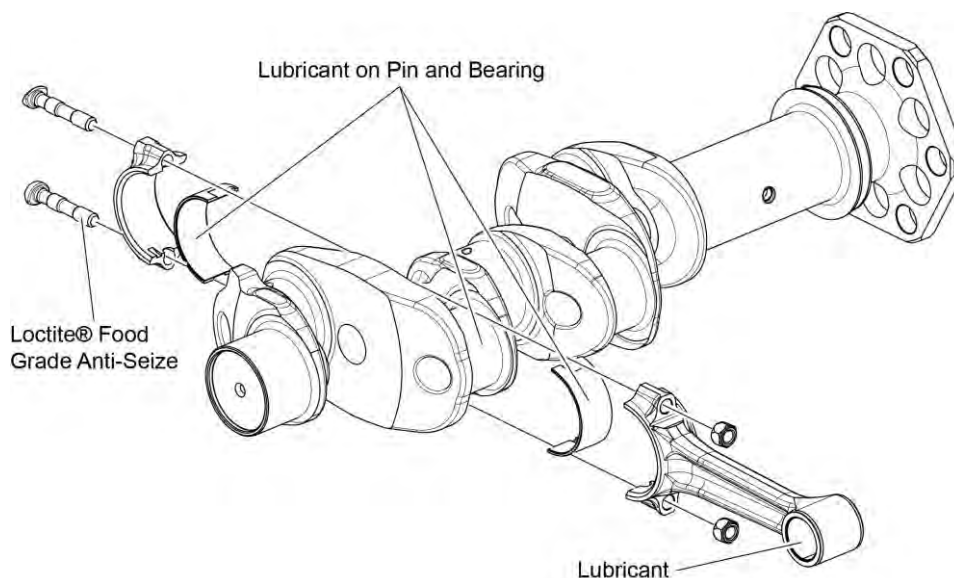

Figure 44
- (1) Ensure that all of the connecting rods have the same weight class letter.
- (2) Apply specified lubricant in the latest revision of Service Instruction No. SI-1059 where shown in Figure 44. Different lubricants are used on the various areas on the connecting rod and bearing surfaces.
- (3) Refer to the latest revision of Service Instruction No. SI-1458 to identify the correct P/Ns for the new connecting rods bolts.
- (4) Make sure the new connecting rod bolt and new nut pairs are clean, free of dirt and debris and that the threads are not damaged.
- (5) Unless otherwise specified in the latest revision of Service Instruction No. SI-1059, apply engine oil mixture (15% pre-lubricant and 85% SAE No. 50 mineral base aviation grade lubricating oil) to the crankpin journals (Figure 44).
- (6) Install the new matched set bearing insert pair on each connecting rod, one bearing insert on the connecting rod and the other bearing insert on the connecting rod cap. Ensure that the tang of each bearing insert fits and seats within the slot of either the connecting rod as well as the connecting rod cap.
- (7) Apply Loctite® Food-Grade Anti-Seize Lubricant to the bottom two or three threads of the new connecting rod bolts (Figure 44). Wipe away excess lubricant with a clean, lint-free cloth.
- (8) Install each connecting rod end cap (with the bearing inserts installed) on their respective crank pins on the crankshaft (where the numbers on the connecting rods and caps point down - toward the oil sump.)